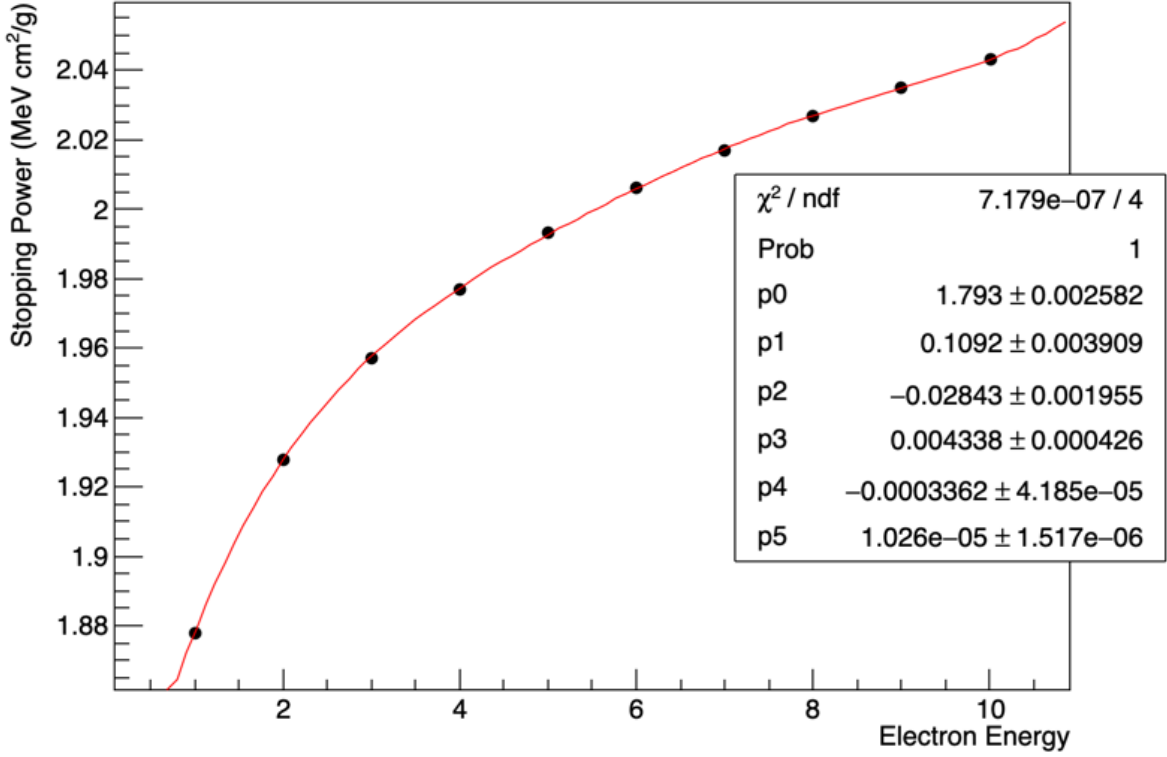

Figure 1: Stopping power for electrons as a function of energy in Fe. Data are from ESTAR and are fit to a 5-degree polynomial.
- $\alpha$  is the collision stopping power for electrons in Fe. It is a function of electron energy and is  $2.043 \text{ (MeV cm}^2)/\text{g} = 3.273 \times 10^{-13} \text{ (J cm}^2)/\text{g}$  for a 10 GeV electron using ESTAR. The ESTAR data along with a 5-degree polynomial fit used to calculate  $\alpha$  as a function of energy is shown in Fig. 1. Care should be exercised when extrapolating outside the 1-10 GeV range.